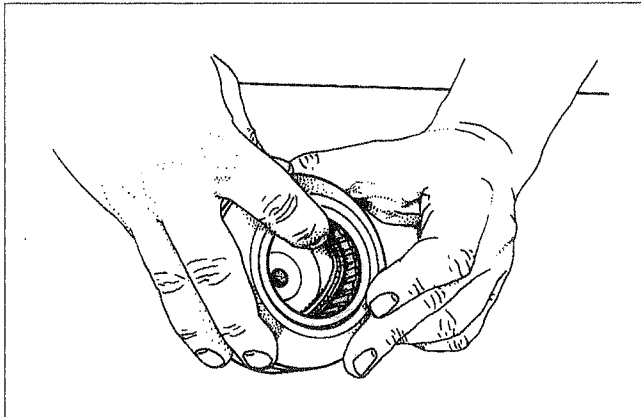
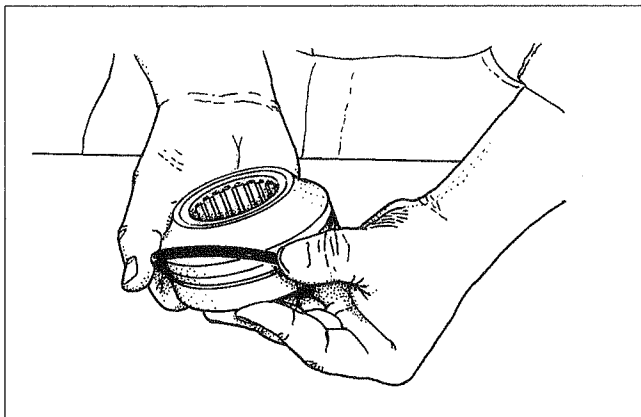

Figure 34
Figure 35
6. Install a new O-ring in the groove of the sector shaft cover (Figure 34 and Figure 35).